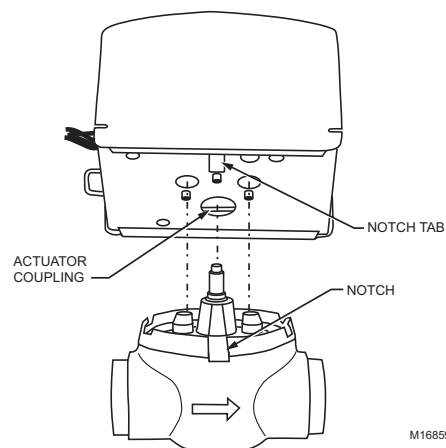

Fig. 5. Installing Actuator.
4. Line up motor coupling to the parallel flat surfaces in the double-D shaft of body and fit the actuator onto the valve body, ensuring that the shaft seats correctly. (See Fig. 5.)